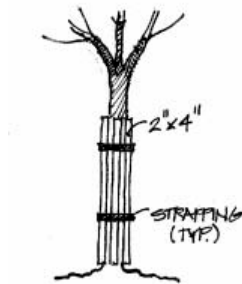

FIGURE 17-21
- e. In close areas where fencing to drip line is not possible, protect by strapping, not nailing, a continuous shield of wood, around trunk as shown in **Figure 17-21**.